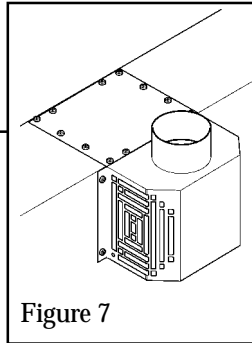

Figure 7
3. Remove 4 screws from the case back (2 each side just outside the cover plate). Fit the adapter unit to the case using these screws (See figure 7).